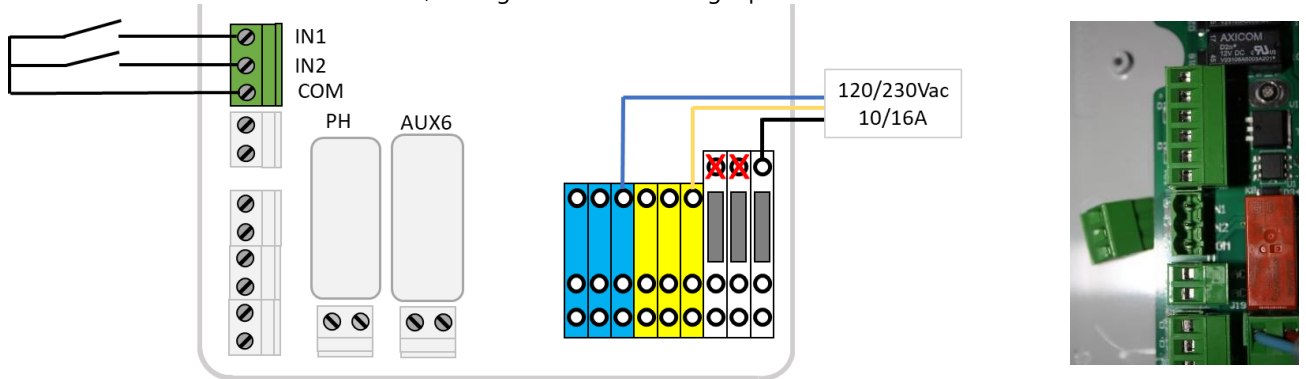

Figure 38 - Connecting Inputs in CCU
- In the CCU and are labelled IN1 and IN2; see Figure 38 - Connecting Inputs in .